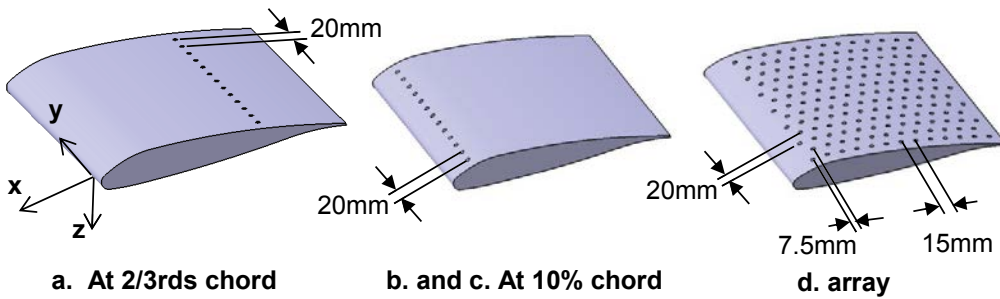

Figure 5: Positioning of bumps or dimples on wing as seen from below
- A row of dimples at 10 per cent of the chord length, 20mm spacing in the y direction (Figure 5.b). This is to compare the effect of dimples vs bumps and check the hypothesis put forward in some previous non-motorsport research that bumps work better than dimples (although the advantage is small; 10 per cent to 20 per cent). Any difference is useful to know as it is felt that it would be simpler (and therefore cheaper) to add bumps rather than create indents.
- An array of bumps in the horizontal x-z plane, with a line of bumps every 20mm in the y direction. This row of bumps is repeated in the x direction, with spacing every 15mm, starting at 10 per cent of the chord length and continuing until the trailing edge is reached. Every other x direction row is displaced by 7.5mm in the x direction to give a pseudo random effect (Figure 5.d).